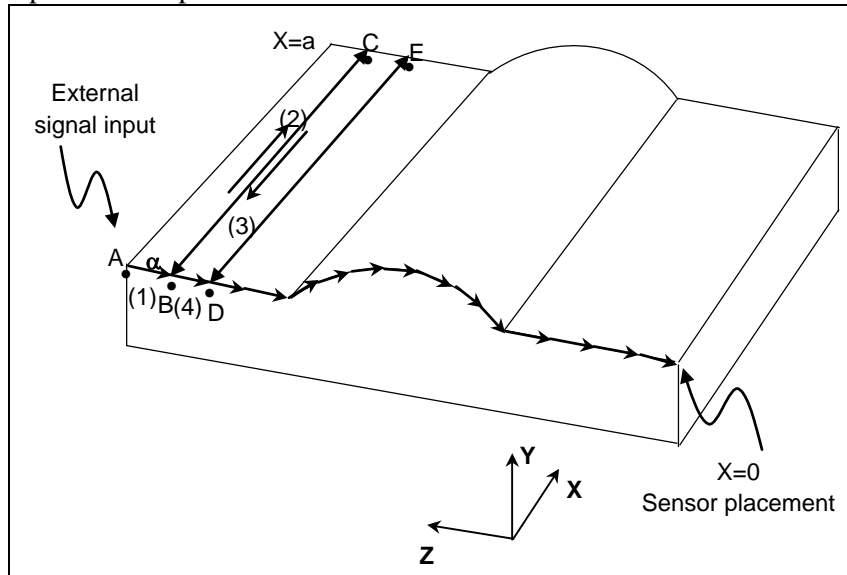

Fig. 5.6 (a)
For example, it is possible to machine a workpiece with a profile programmed with linear interpolation, circular interpolation, and linear interpolation on the YZ plane, such as that shown in the Fig. 5.6 (a).
Then, when the sensor detects the grinding wheel, the switch on the machine operator's panel is input, and the machine makes a cut by the constant amount α along the programmed profile on the specified YZ plane and moves to point B (operation (1)). The machine is then placed in the state in which it waits for the input of the switch on the machine operator's panel again, and performs a grinding operation along the X-axis. It grinds from point B to point C (operation (2)) and grinds back from point C to point B (operation (3)). When the machine returns to point B, the sensor detects the grinding wheel again, and the switch on the machine operator's panel is input, so that the machine makes a cut by the amount of α and moves to point D (operation (4)). At point D, the machine performs a grinding operation along the X-axis. Afterwards, each time the switch on the machine operator's panel is input, the machine makes a cut by the amount of α along the profile program, so that the workpiece is machined to a profile such as that shown in the Fig. 5.6 (a).